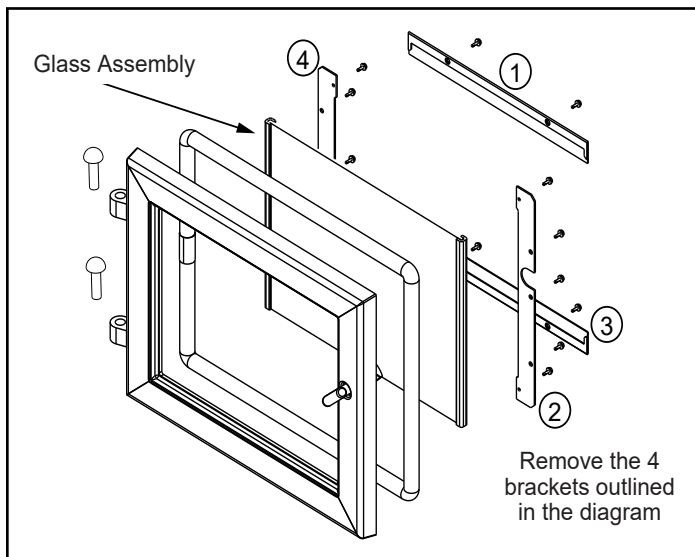

Figure 27.1
2. Using a Phillips Head screw driver, remove the 4 brackets and set aside (**Figure 27.1**).